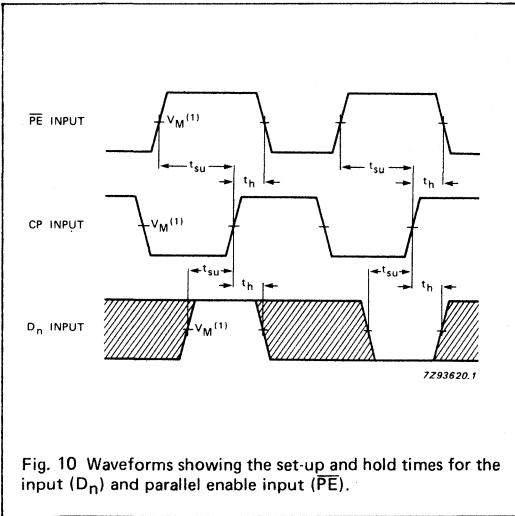

Fig. 10 Waveforms showing the set-up and hold times for the input ( $D_n$ ) and parallel enable input ( $\overline{PE}$ ).
**Note to Figs 10, 11 and 12**